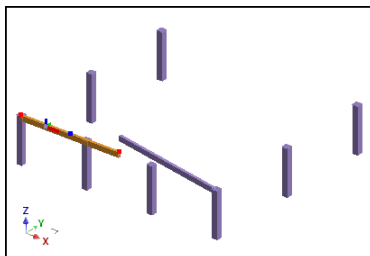

Figure 57: Selection of the second beam
1. Select the other beam (Figure 57).